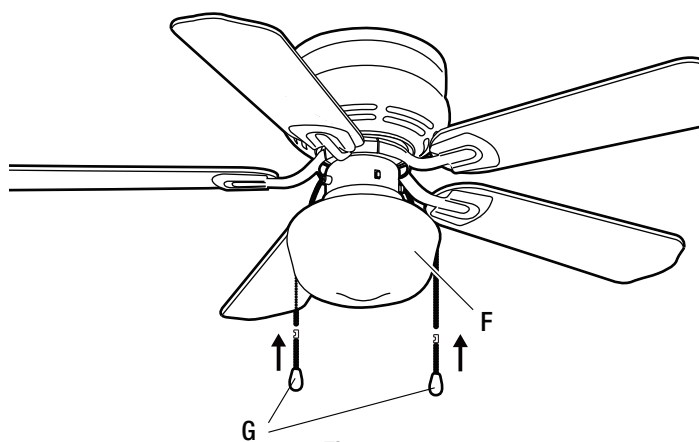

Figure 15
- Install the lamp shade into the lamp-fitter by tightening the thumb screws (Figure 15).
- Attached the pull chain extensions (G) provided to the fan and light kit pull chain. (Figure 15)